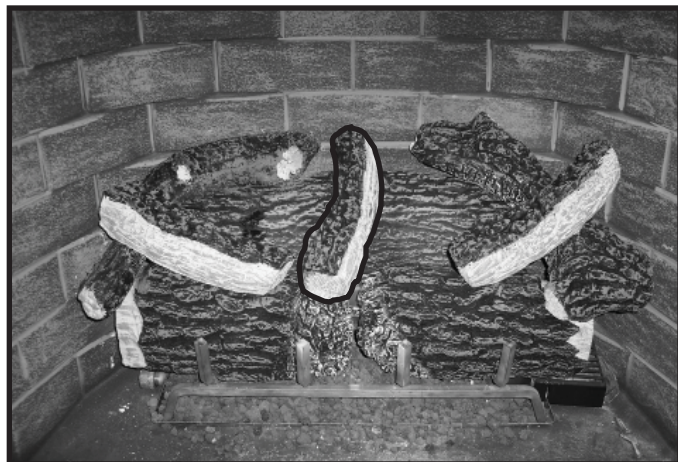

Figure 8.12 Place Top Log in Center- Carolina 36
- Place the top log on the indentations of the left front log and the back log as shown in Figure 8.12 for Carolina-36.
- Place the top log on the indentations of the right front log and the right rear log as shown in Figure 8.12.